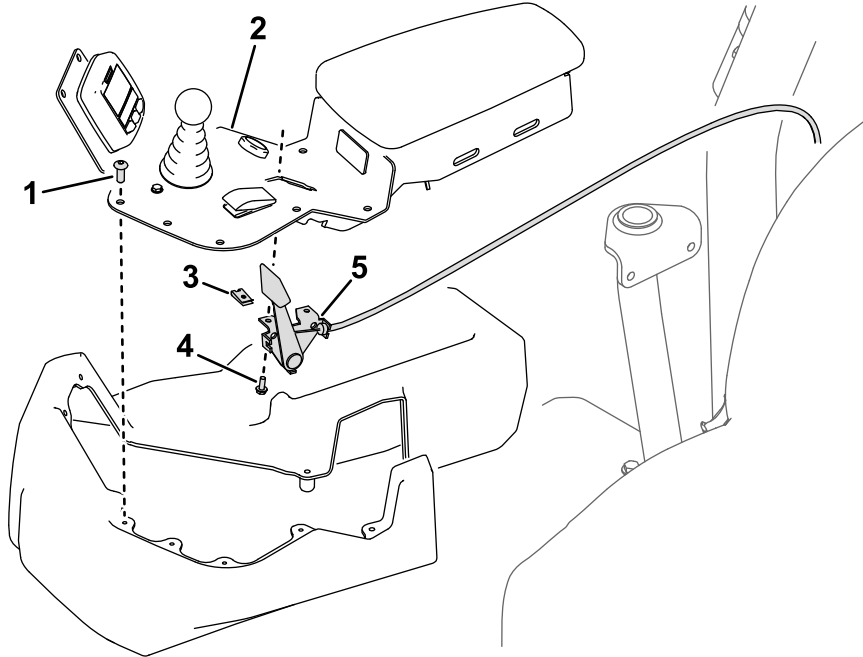

Figure 2
1. Remove the 10 button-head screws from the console and remove the console plate (Figure 2). Retain the screws.
2. Remove the bolts and speed nuts that secure the choke cable to the console plate (Figure 2).
Refer to Figure 2 for this procedure.